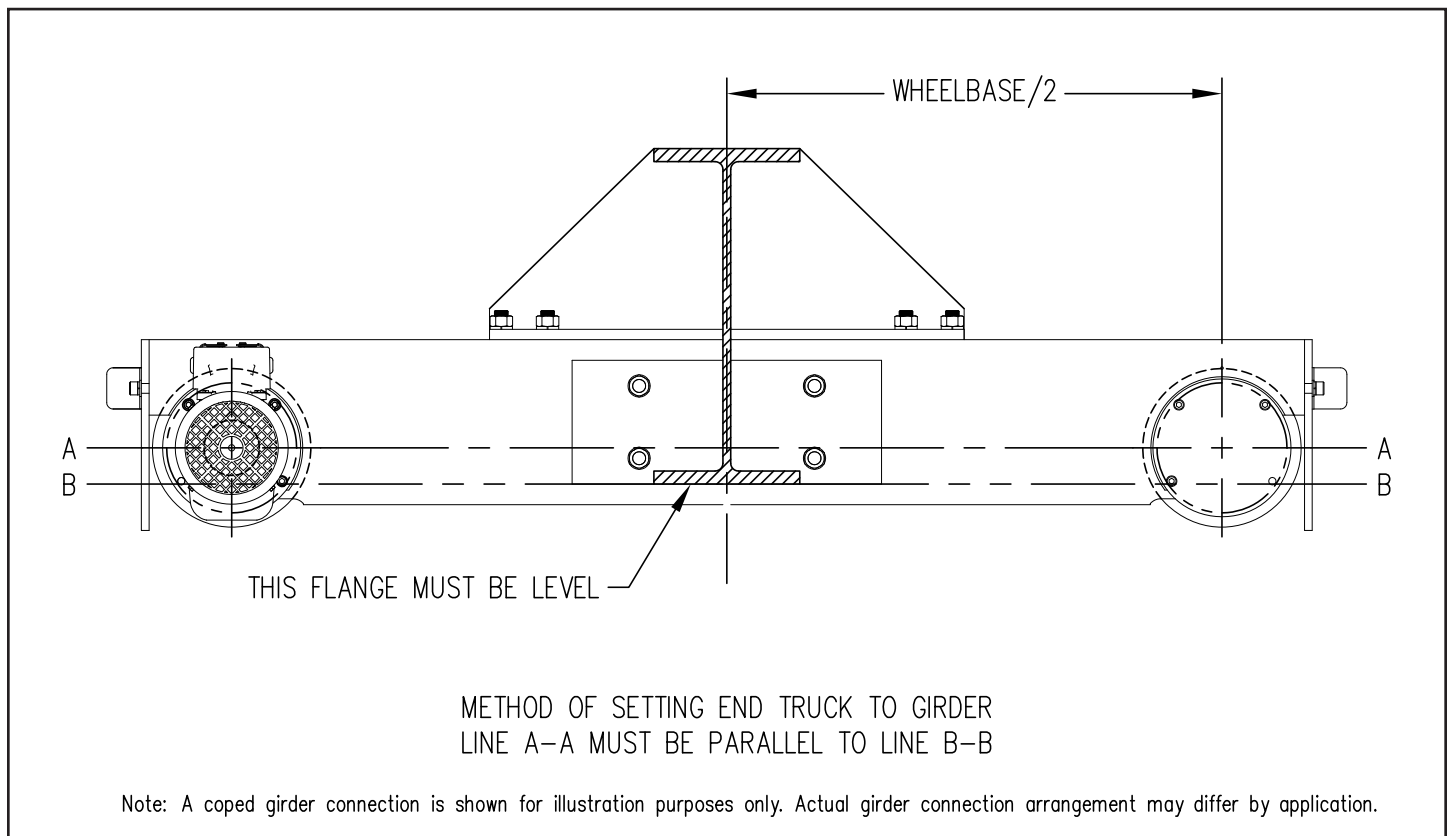
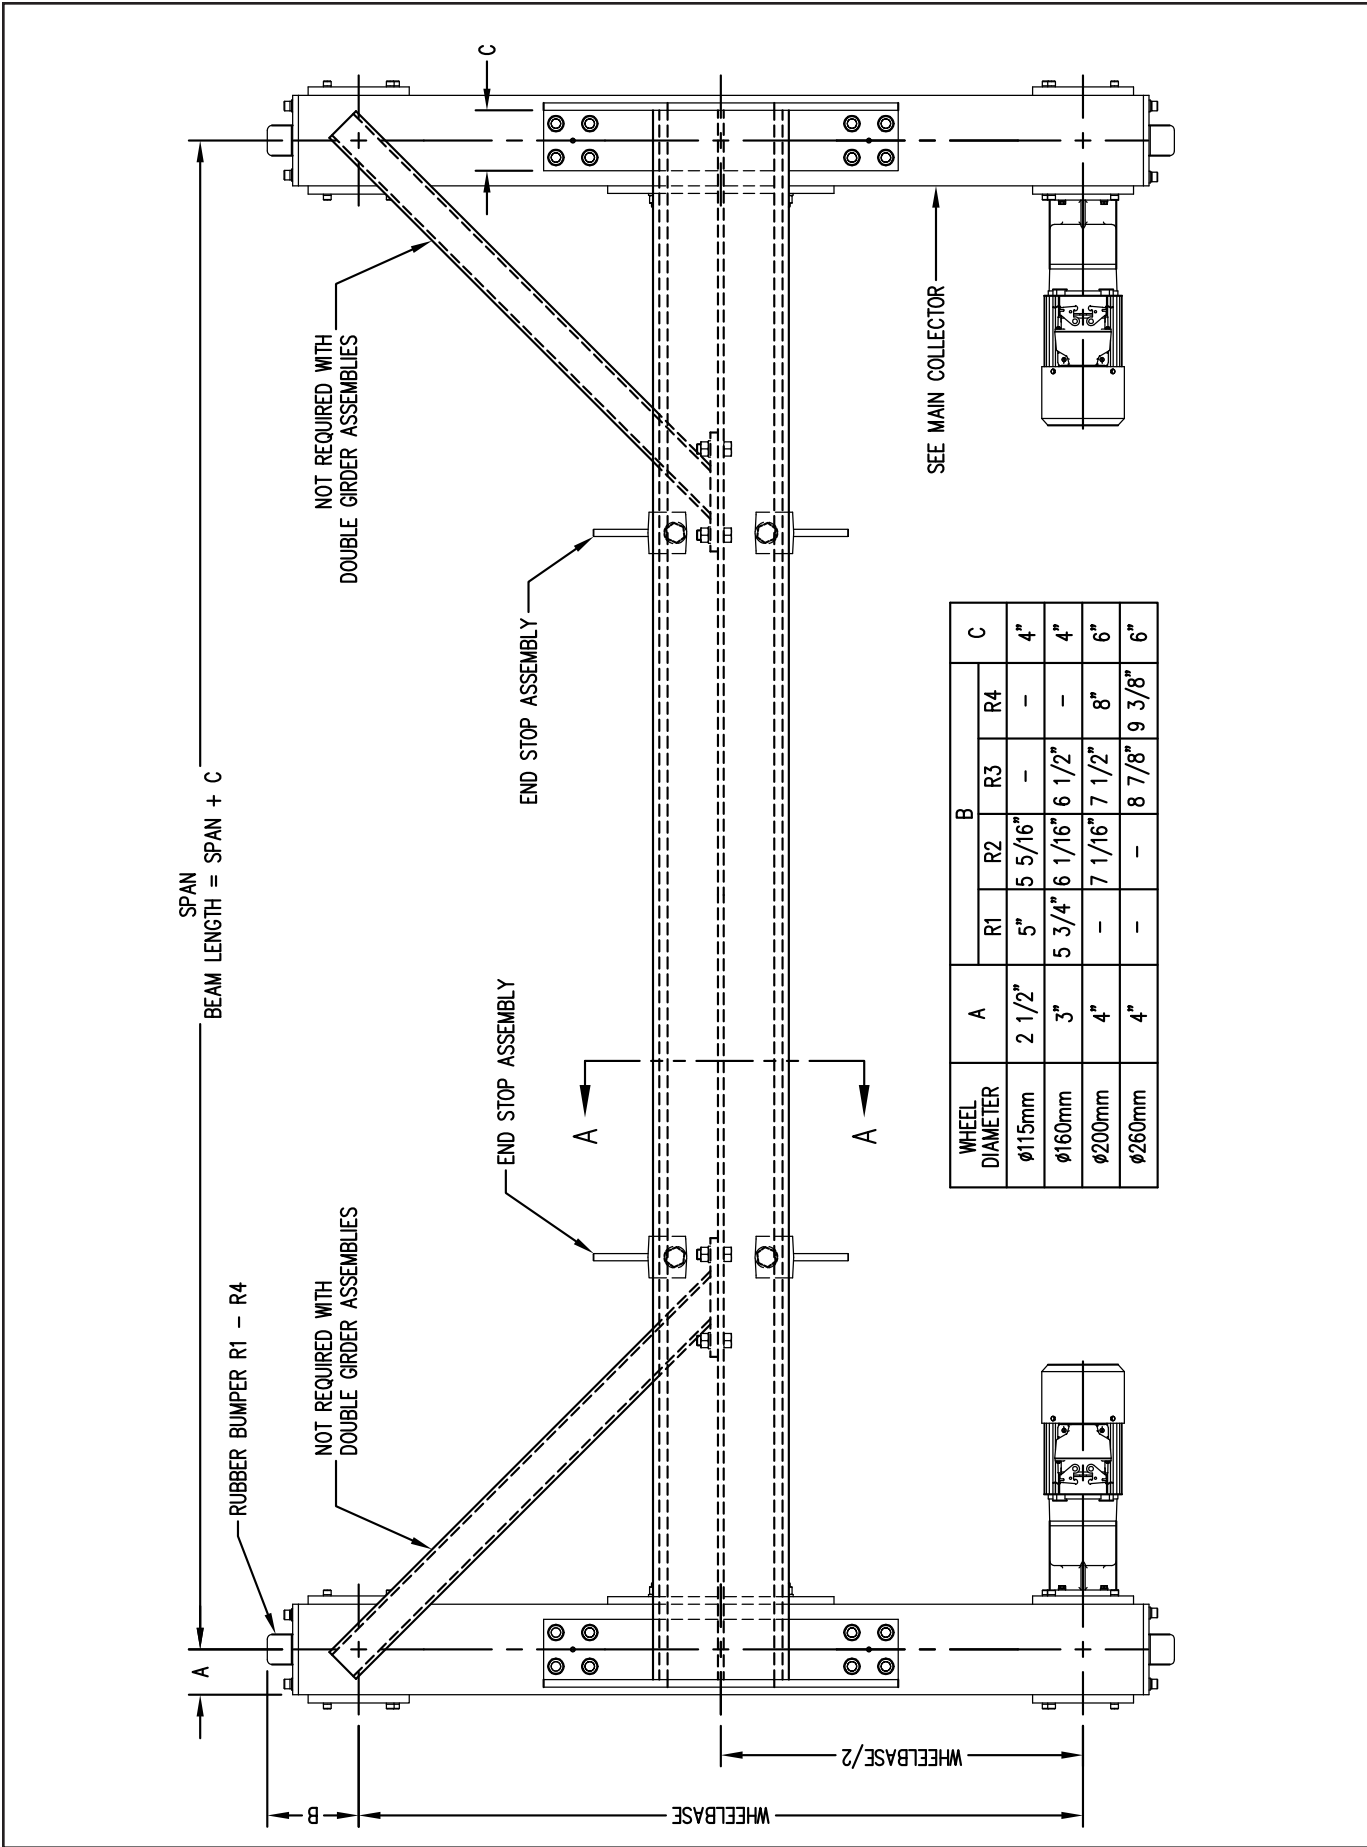

Figure 3.
Figure 5. Bridge Bolted Plate End Connection
1. Refer to figure 5 & 5A, Bridge Bolted Plate End Connection. Make the notch to the dimensions shown with a  $\frac{1}{2}$ " radius at the intersection of the cuts with a cutting torch or plasma burner and smooth the burned area by grinding. Support beam about two feet from each end on a pair of horses, or other suitable support (adjustable, with clamping ability is preferred). Place beam on supports so that camber side is at top. In case of beams with capping channels the channel side is up. When setting up the beam on supports, make certain that **the bottom flange is level**, as shown in figure 3.
2. Locate end trucks in the notch of the girder, one at each end of the girder. Make certain trucks are level with each other and are level with the bottom flange of the beam as shown in figure 3. The girder web is centered on the truck wheelbase.
5. After assuring that the trucks are accurately positioned and squared, complete girder connections as shown in figure 3.
1. Refer to figure 5 & 5B. Bolt Plated End Connection. Make the notch to the dimensions shown with a 1/2" radius at the intersection of the cuts with a cutting torch or plasma burner and smooth the burned area by grinding. Support beam about two feet from each end on a pair of horses, or other suitable support (adjustable, with clamping ability is preferred). Place beam on supports so that camber side is at top. In case of beams with